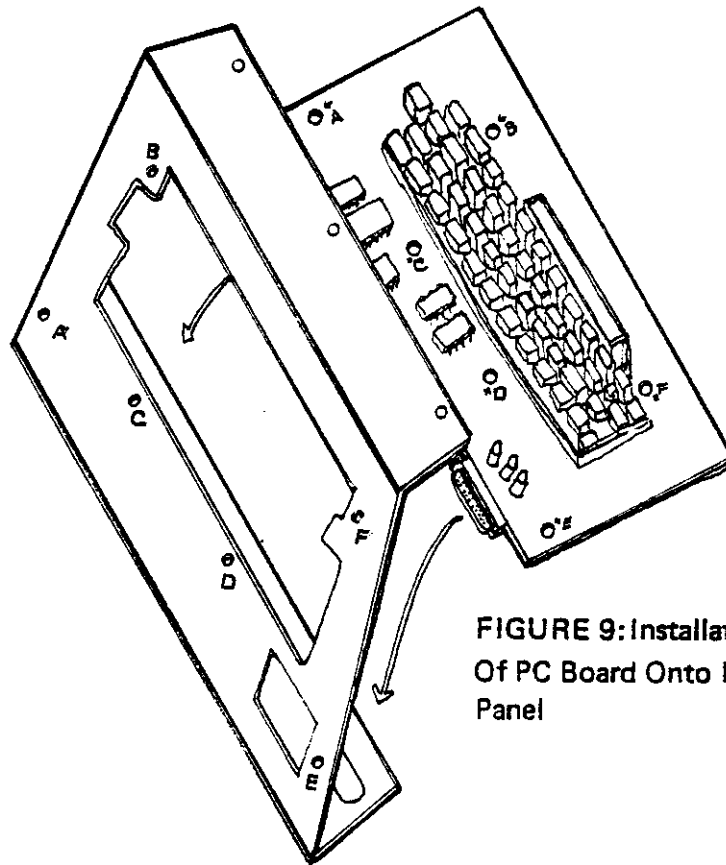

FIGURE 9: Installation
- () 59. Refer to Figure 9; align the PC board and cover plate as indicated in the figure, and press the cover plate screws designated as C and D into the corresponding metal-rimmed eyelets on the PC board. Press-fit the four (4) remaining screws from the cover plate into the appropriate holes on the PC board.